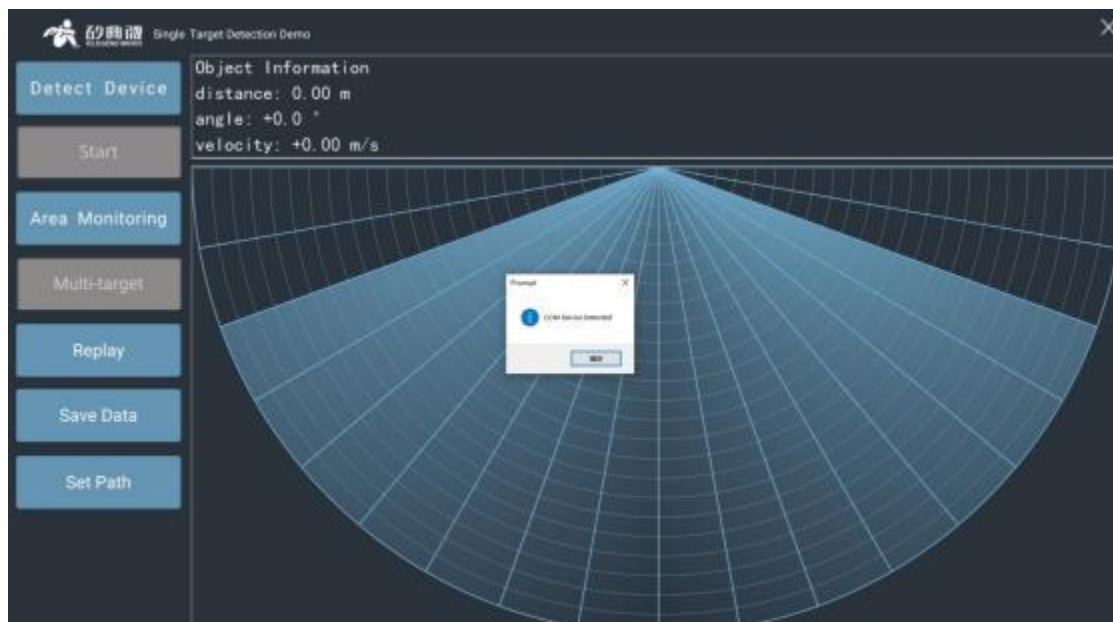

Figure 4-3 Device successfully detected
Step 2: Click the "Detect Device" button on the interface. If the serial port connection is correct, the interface will popup the prompt box of "Detect Serial Device", as shown in Figure 4-3.